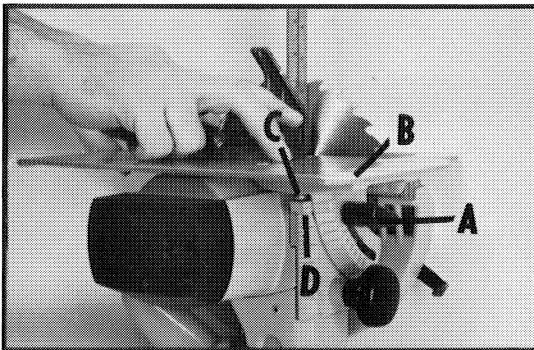

Fig. 6
3. Turn the saw over and make sure the handle rests on a rigid support. Loosen bevel adjusting knob (A), Fig. 6, and position the base (B) so the stop screw (C) contacts the stop (D).
4. Retract the blade guard and with a square, check to see if the blade is at 90 degrees to the base, as shown in Fig. 6. If the blade is not at 90 degrees to the base, turn the stop screw (C) in or out until you are certain the blade is at 90 degrees to the base when the stop screw (C) contacts the stop (D), Fig. 6.